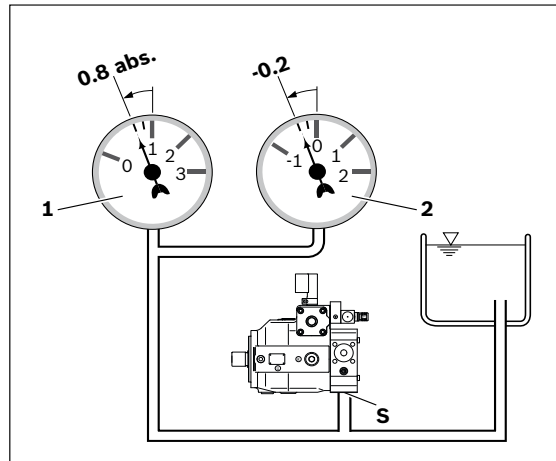

Fig. 7: Suction pressure
- ▶ Make certain that a minimum suction pressure of 0.8 bar absolute is present at port **S** during operation of the axial piston pump in all installation positions and installation locations for sizes 71 and 125 (5 bar absolute for size 450), see Fig. 7. See data sheet for pressure values.